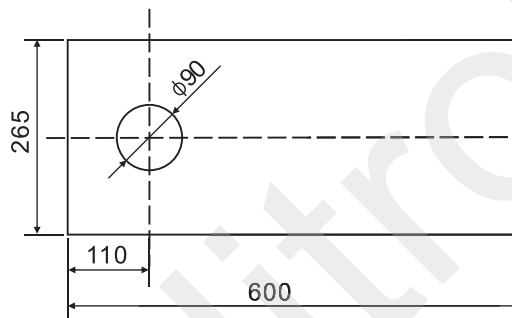

Fig 2
- 3.1.4 Installed and leveled on a stable base. (Its shape and size are only for reference) Levelness should not exceed 0.2/1000. Drill a  $\phi 90\text{mm}$  hole on the working table for the lever elevation. (fig 2)